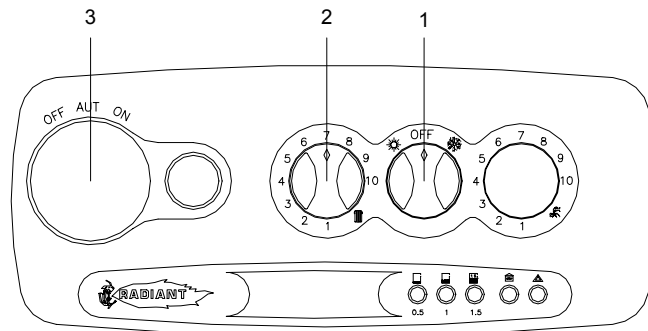

Fig. 1
- B. Move the bridge PT (see fig.1) from terminal TA to the free one next to it.
LEGEND (see fig. 1)